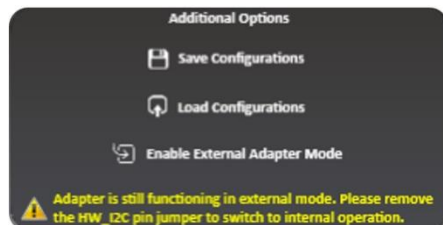

Figure 66: External mode disabled via the GUI while the jumper remains on the HW\_I2C pin – the adapter will operate in external mode
- If you attempt to enter internal I2C mode with the jumper still on the **HW\_I2C pin**, a warning message will pop up (Figure 66).